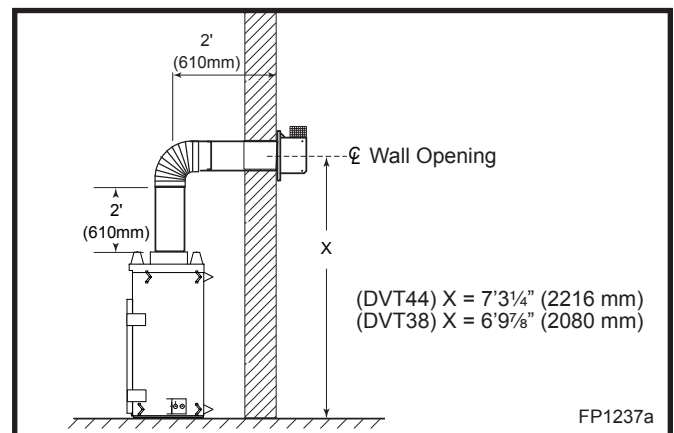

Fig. 18 Minimum vertical run / maximum horizontal run.
- The maximum number of 90° elbows per side wall installation is three (3), but must not have two (2) consecutive elbows in the horizontal plane.
- A minimum of 2' (610 mm) vertical section off the top of the unit is required, an elbow and a 1' (305 mm) maximum horizontal run to get through a wall. (Fig. 18)